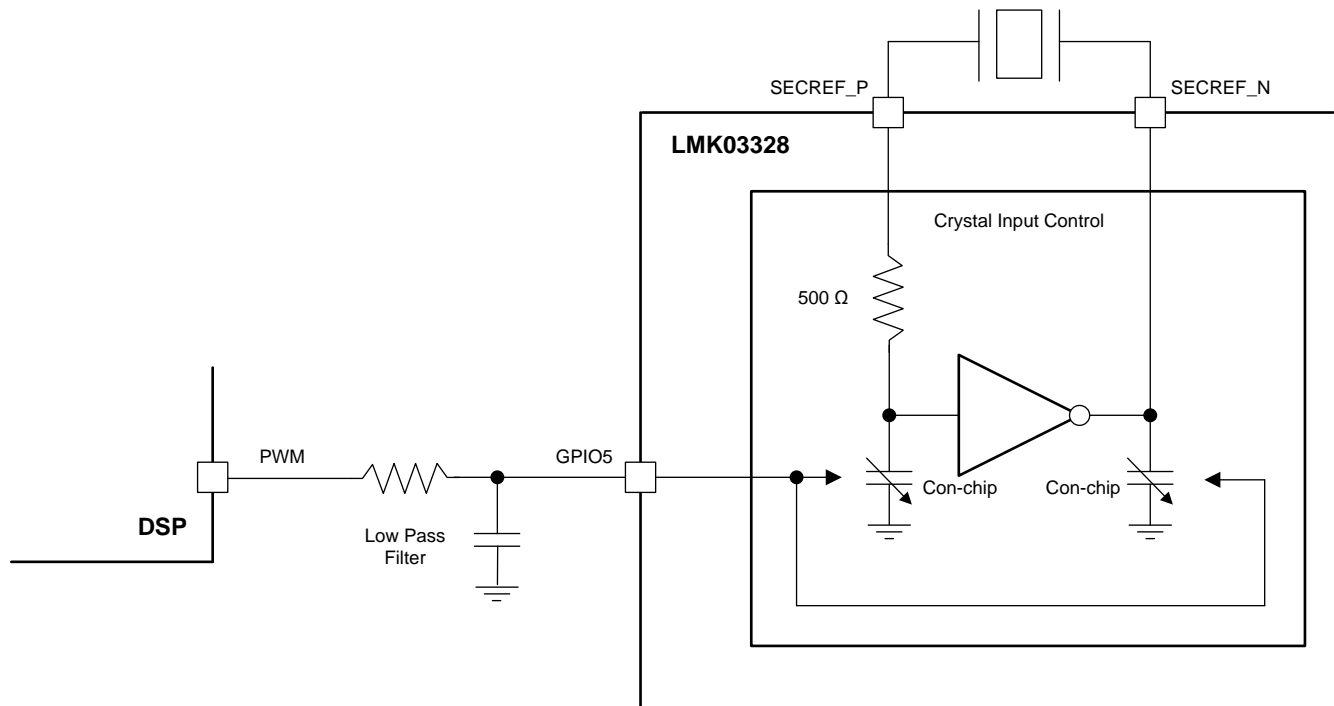

Figure 57. Crystal Load Capacitance Compensation Using PWM Signal
- The second method is using a low-pass filtered PWM signal to drive the 8-level GPIO5 pin as shown in Figure 57. The PWM signal could be generated from the frequency difference between a highly stable TCXO and the output of LMK03328 that is provided as a feedback into the GPIO5 pin and used to adjust the on-chip load capacitance on the crystal input in order to reduce frequency errors from the crystal. This is a quick alternative that produces a frequency error at the LMK03328's output and could be acceptable to any application when compared to a full-characterization with a chosen crystal to understand the exact load pulling required to minimize frequency error at the LMK03328's output. More details on frequency margining are provided in Application and Implementation.